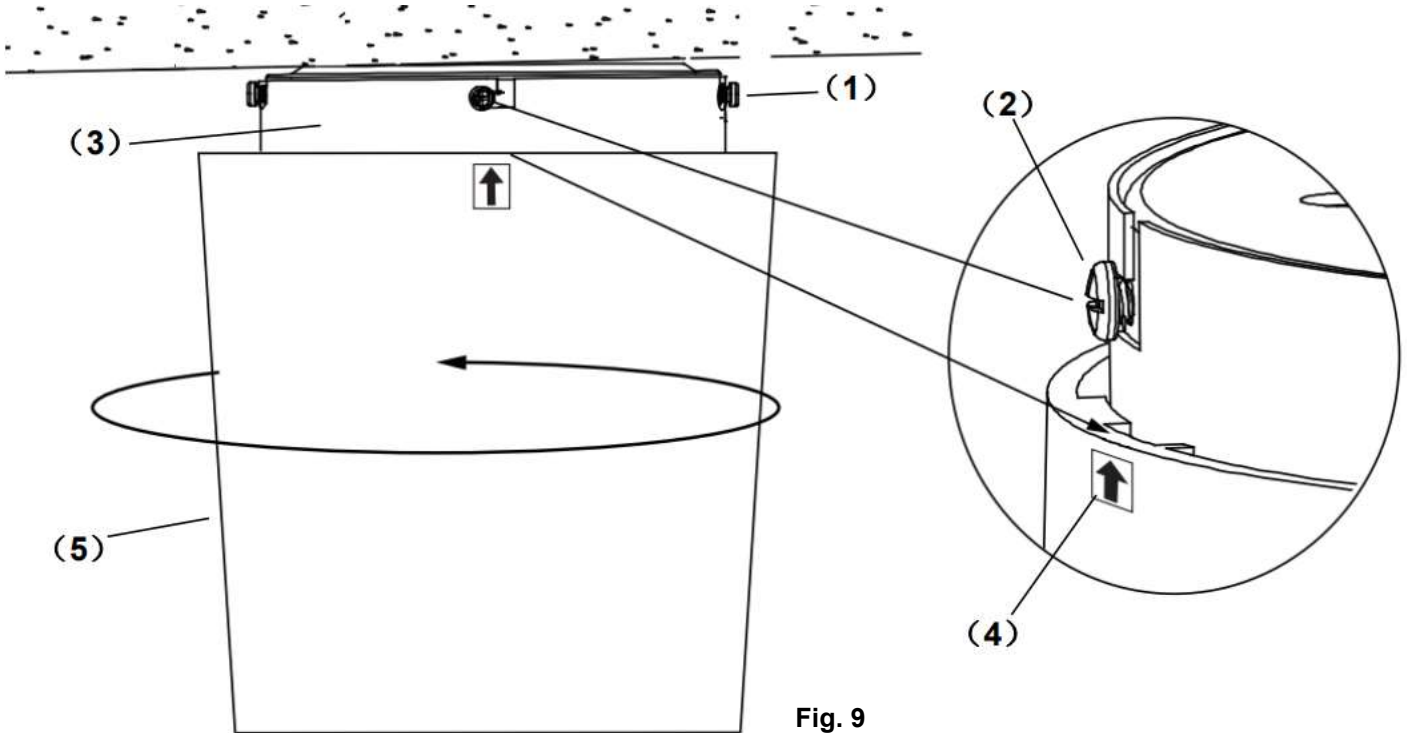

Fig. 9
- Align the arrow mark (4) on the hook surface of the motor housing (5) up to the screws (2) of hanging canopy (3). (Fig.9)
- Finally attach the motor housing (5) to the mounting bracket, secure it by pushing the hooks of the motor housing into the slot holes of the hanging canopy and turn it anti clockwise.